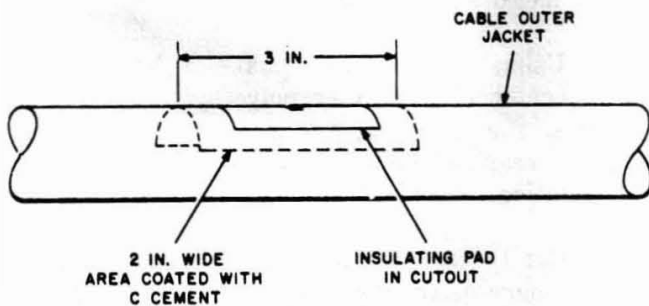

Fig. 14—Cutout With Pad in Place
- (5) Carefully trim the pad to fit in the cutout in the outer polyethylene jacket. The pad should butt against the cut edges of the polyethylene along all four sides.
- (6) Remove the pad from the cutout. Coat the exposed inner polyethylene jacket and the cut edges of the outer polyethylene jacket with C cement and allow to dry. **Do not allow cement to get into the drilled hole.**
- (7) Place the pad back in the cutout and press firmly in position. Coat the insulating pad and the area of the outer jacket around the pad with C cement and allow to dry (Fig. 14).